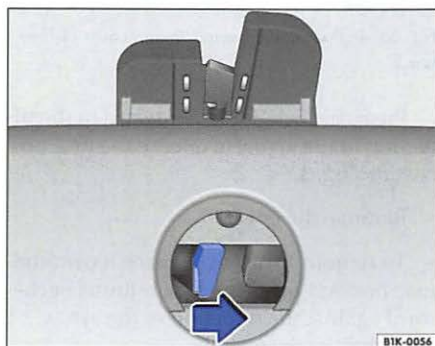

Fig. 31 Emergency unlocking of the rear lid
- Press the release lever in the direction of the arrow ⇒ fig. 31 to release the rear lid.